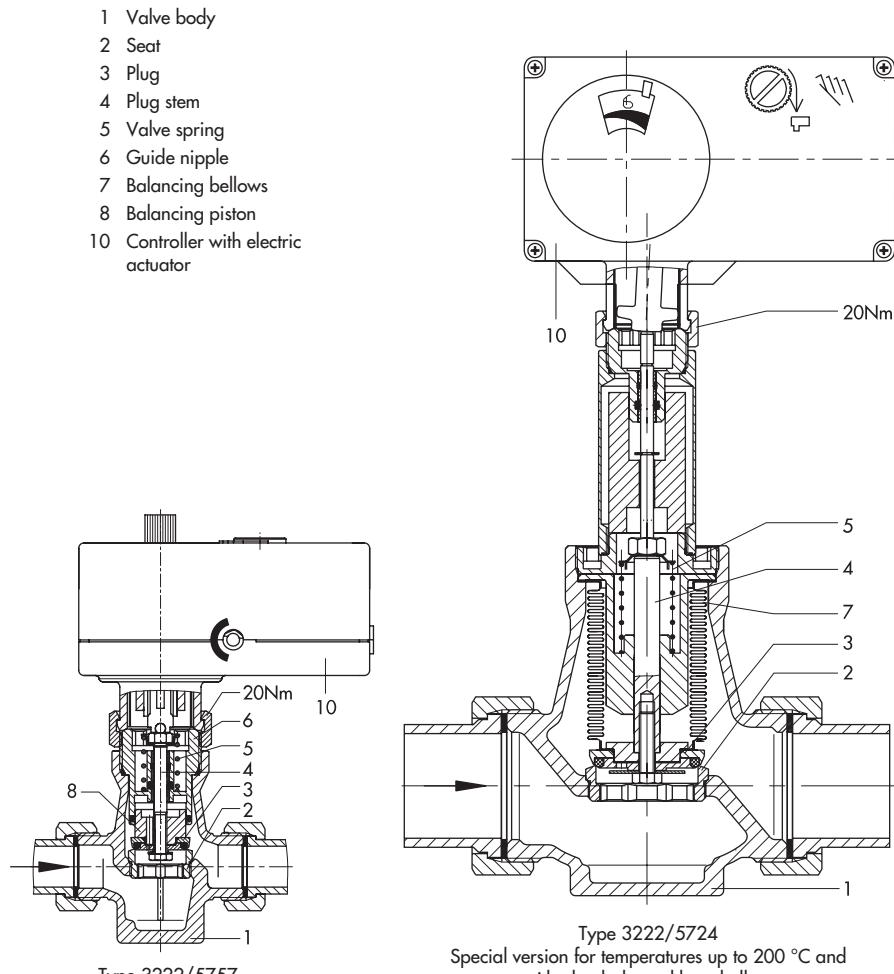

Fig. 1 · Type 3222/5757 and Type 3222/5724 Electric Control Valves/Controller with Electric Actuator
The process medium flows through the globe valve in the direction indicated by the arrow on the body. The position of the valve plug determines the flow rate over the cross-sectional area of flow released between the plug (3) and valve seat (2). The plug stem (4) with plug is connected with the stem of the actuator (10) by a force-locking connection. The valve is opened by the valve spring (5) following the retracting movement of the actuator stem. A special version is required for water above 150 °C and for steam (Fig. 1). The plug is moved by a change in the control signal acting on the actuator.